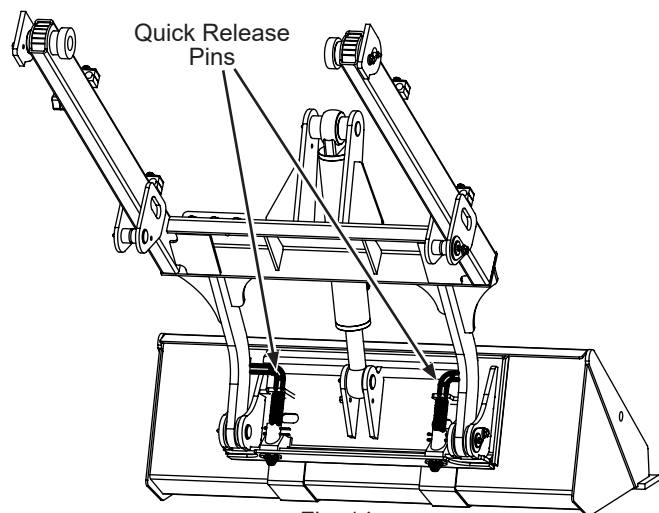

Fig. 14
Prior to starting and driving the machine, always check that any attachment is engaged with the Attachment Plate (5) and the Quick Release Pins (Fig. 14) are fully engaged.
Before installing the attachment, ensure that the Attachment Plate (5) and mating mounting plate on the attachment are free of any dirt or debris and that the Quick Release Pins (Fig. 14) move freely. If the pins do not move freely, grease them.